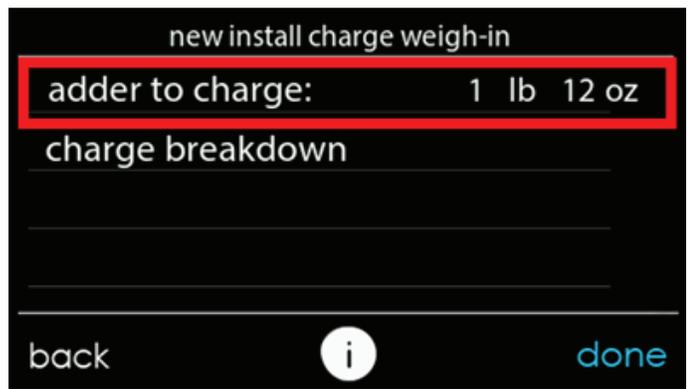
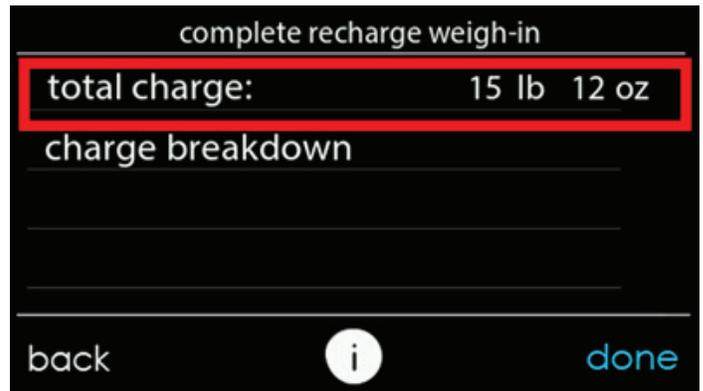

Fig. 20 – Additional Required Charge for New Installation A20038
Fig. 21 – Total Charge Required for a Complete Charge A20039
- The "new install charge weigh-in" screen will show the additional charge that needs to be added to the system to account for the ID coil and line set (see Fig. 20).
- If this is a complete re-charge then select "complete recharge" in the "charging mode selection" screen. This screen will show the total amount of charge to add for the indoor coil, line set, and outdoor unit (see Fig. 21). The "charge breakdown" screen shows the charge required for each component of the system.
In heating mode, the required charging method is by weigh-in. On new installation or complete recharge, refer to the refrigerant charging screen in the user interface (UI) to obtain the required charge adjustment and/or total charge required (see Fig. 20 & Fig. 21). Use the UI and Heating Check Charts (located on the inside of the control box cover) to check system operation during HEATING mode. The indoor conditions must be between 60°F (15.6°C) and 80°F (26.7°C) to check the charge. The outdoor coil must be dry and ice/frost free. Do not check for pressure agreement if the outdoor has rain, mist or snow present.